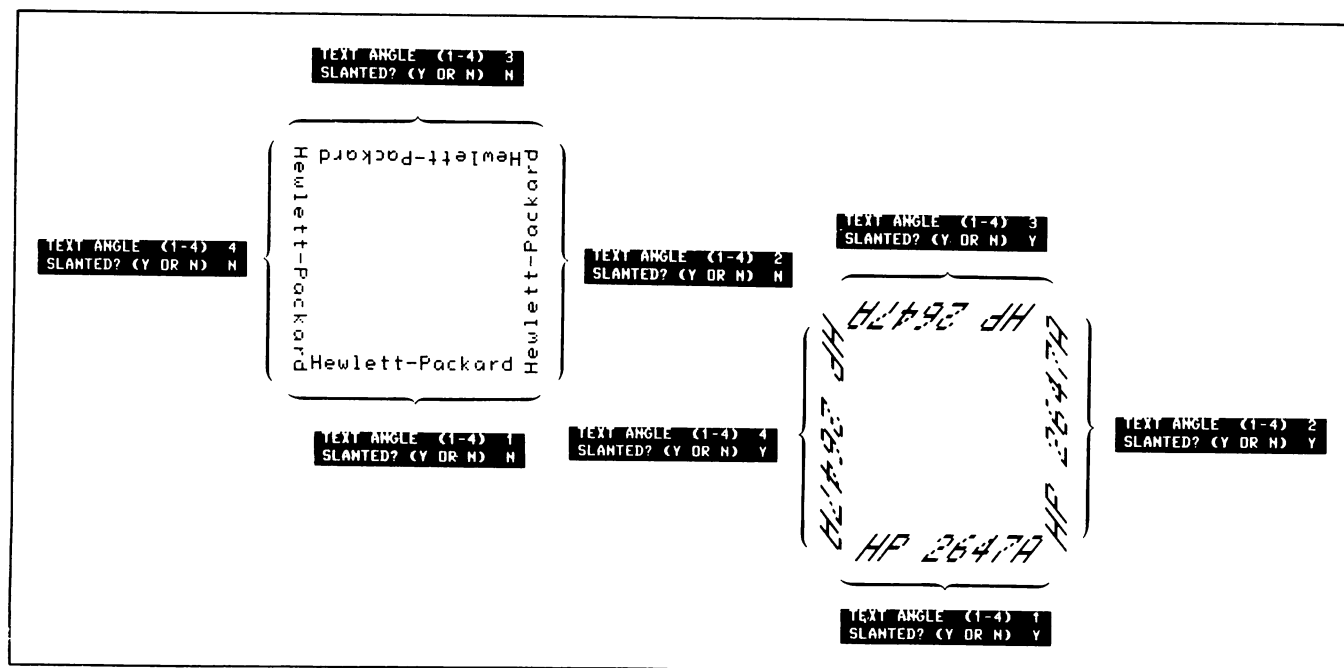

Figure 3-16. Graphics Text Direction
**TEXT DIRECTION.** This command uses the ASCII characters 1 through 4 to specify the text orientation (see figure 3-16). This also changes the direction of line feed, carriage return, and backspace.